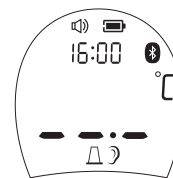
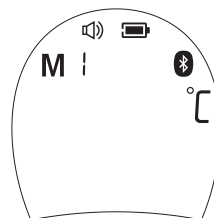

Figure 2
Figure 7
2. Press the *Test Button*, The display is activated to show all segments. After self-checking Figure 2 appears on the display screen with beeps, so you can start a new measurement. If error messages appears, it means the thermometer is not ready for measurement.
When the thermometer has been turned on and followed by Figure 2/4 or finished testing, press and hold the **Button** for three seconds. The letter MEM will appear at the bottom of the display. (See Figure 7)